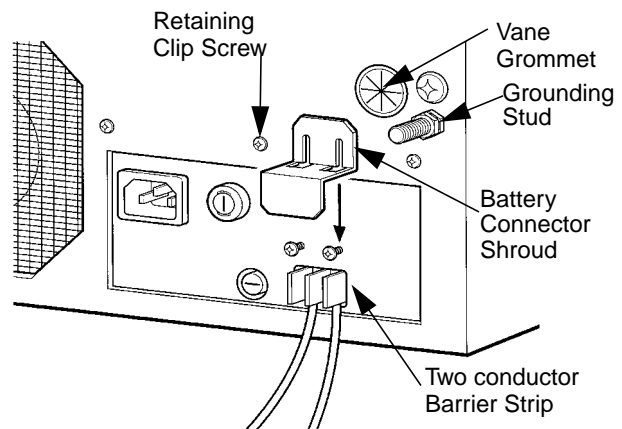

Figure 2-6. Placement of Battery Connector Shroud
To prevent accidental disconnection of the power cord, plug it into the CDR500 repeater and attach the retaining cable clamp to the CDR500 repeater housing with the center top mounting screw of the power supply before connecting the cord to an AC power source (refer to Figure 2-6).
7. If you are using a battery backup, refer to section Section 7 for further information. Otherwise install the battery connector shroud. Refer to Figure 2-6.